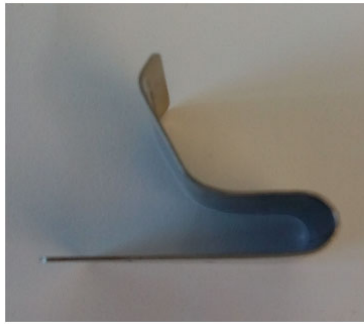

Figure 4 Power Control Lever Tool P/N XL2078
METHOD A (Figures 4 and 5)
NOTE: The Power Control Lever Tool (refer to Figure 4) is used to retain the tension spring in position within the gate lever and the guide block with the disassembly of the guide block and the gate lever from the Power Control Lever.
- i. Apply adhesive tape around the guide block and the gate lever to hold these two parts together (refer to Step i of Figure 4).
- ii. Remove one of the lower attach screws of the guide block and partially position tool between the gate lever and the power control lever to retain the tension spring in position (refer to Steps ii and iii of Figure 4).
- iii. Remove the remaining lower attach screw of the guide block and slide tool in position as indicated in Step iv of Figure 4.
- iv. Remove the upper attach screw of the guide block and separate the guide block and the gate lever from the power control lever (refer to Step iv of Figure 4).